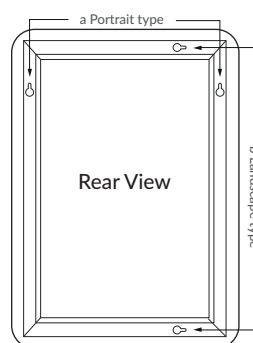

Fig. 2
1. Make certain the wall is solid, and use the flexible rule to measure the distance between two hardy holes on the mirror frame ("a" and "b" in fig 2).
2. Use the flexible rule to measure the centre distance between two hardy holes on the wall ("a" and "b" in fig 2) and mark them out with a pencil.